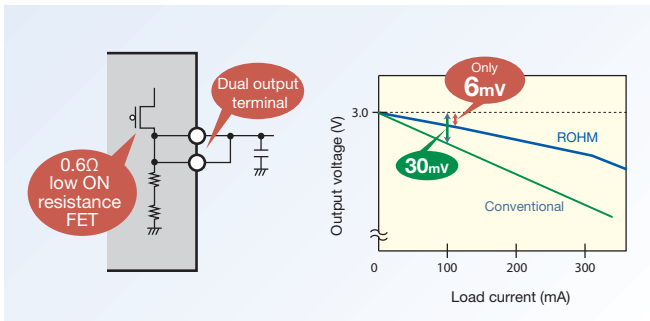

Figure 9. ROHM's MA3 series LDOs exhibit a voltage drop of just 6 mV (Iout = 100 mA) instead of 30 mV in comparable devices.
**High current [MA3 series]** LDOs include a proprietary feedback circuit, low ON-resistance, and two parallel output terminals (see Figure 9) to enable stable load regulation as low as 6 mV compared to conventional regulators at 30 mV. The compact (1.6 x 3.0 mm2) high power (Pd = 680 mW) HVSO6 package has an underside heatsink for high thermal dissipation. In addition to higher power loads in battery-powered products, this higher current LDO can handle loads in graphics cards, telecom equipment and consumer applications such as HDTVs.